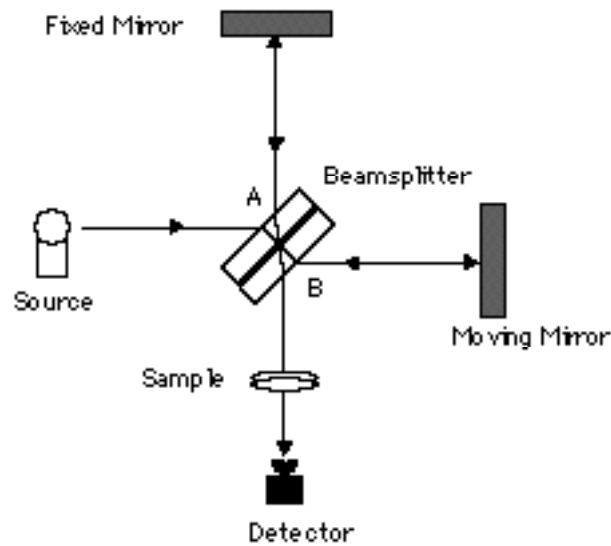

Figure 3. Michelson Interferometer
If radiation from an infinitely narrow line source hits the beamsplitter (Figure 3), one part of the beam (A), goes to the fixed mirror and the other beam (B), to the moving mirror. When the beams are recombined, an interference pattern is obtained as the Optical Path Difference (OPD) or the retardation  $\delta$  is varied ( $OPD = 2 \times \text{mirror displacement}$ ). If the position of the moving mirror is such that beam (B) travels exactly the same distance as beam (A) before reaching the detector then the two beams will be in phase and will reinforce each other. Constructive interference occurs every time the value of the retardation  $\delta$  is an integer multiple of